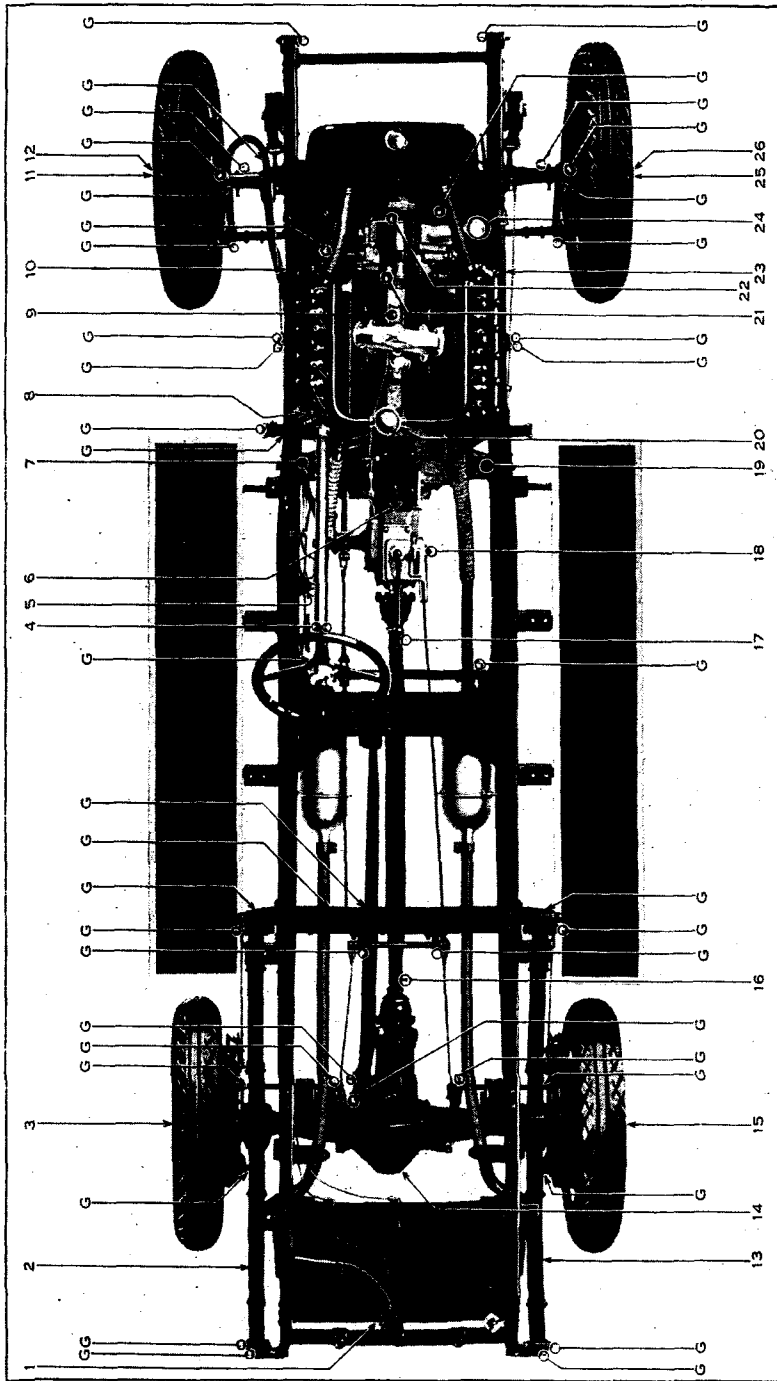

FIGURE 11. Chassis lubrication diagram
The schedule in Fig. 9 is in outline form. Detailed information as to the location of the points to which lubricant is to be applied, the method of lubricating, and the kind and amount of lubricant will be found in Chapters VI and VII. For each point on the schedule, two reference numbers are given: the number of the page on which detailed directions will be found and the number designating the point on the chassis lubrication diagram, Fig. 11.
Spring bolts, steering connections, brake rocker shafts and other points are provided with connections to fit the grease gun supplied with the tool equipment. These points are indicated by "G" in Fig. 11. Cadillac Roller Bearing and Cup Grease should be applied to these points with the grease gun every 500 miles.
*The numbers following the headings in this chapter and in Chapter III refer to Fig. 11.